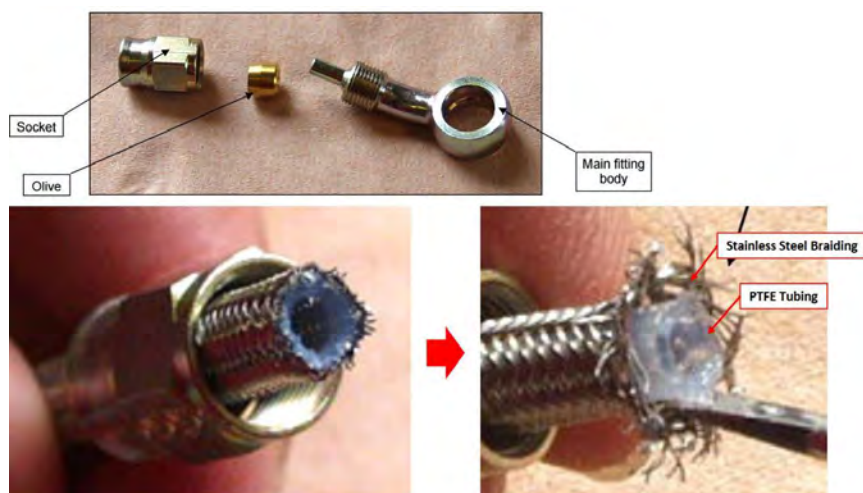

FIGURE 15-16
3. Disassemble hose end fitting into its component parts, socket, olive, and main body (see Figure 15-16 for example using a banjo fitting).
5. Use a small slot-head screwdriver to flare out the stainless steel braid at the end of the hose, separating them from the hose's PTFE inner liner for a length of .2 inches minimum (see Figure 15-16).